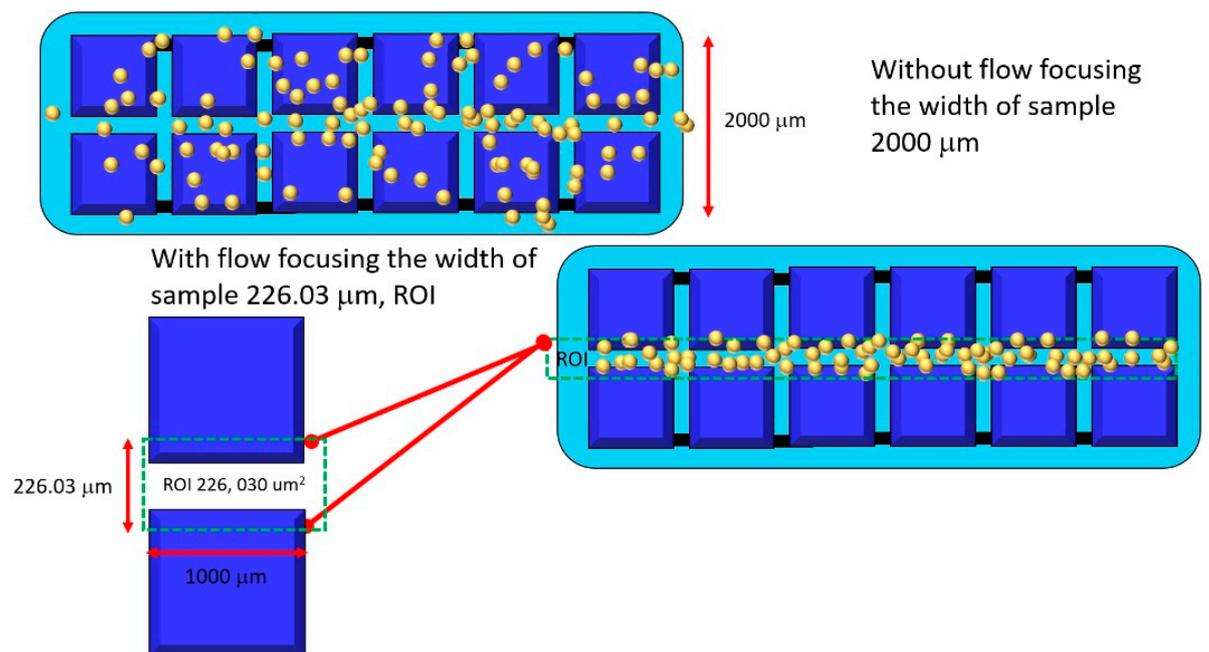

Figure S1. The width of the sample in TAMA with and without flow-focusing.
- The Figure S1 below shows the details, we define the area in ROI by the length of ImageJ analysis approximately $2300\ \mu\text{m}$ and the width approximately $226.03\ \mu\text{m}$. Thus, the total area of ROI ImageJ analysis $519,869\ \mu\text{m}^2$. However, ImageJ analysis total area $519,422.8\ \mu\text{m}^2$ (Without flow focusing) and $517,465.7\ \mu\text{m}^2$ (with flow focusing).